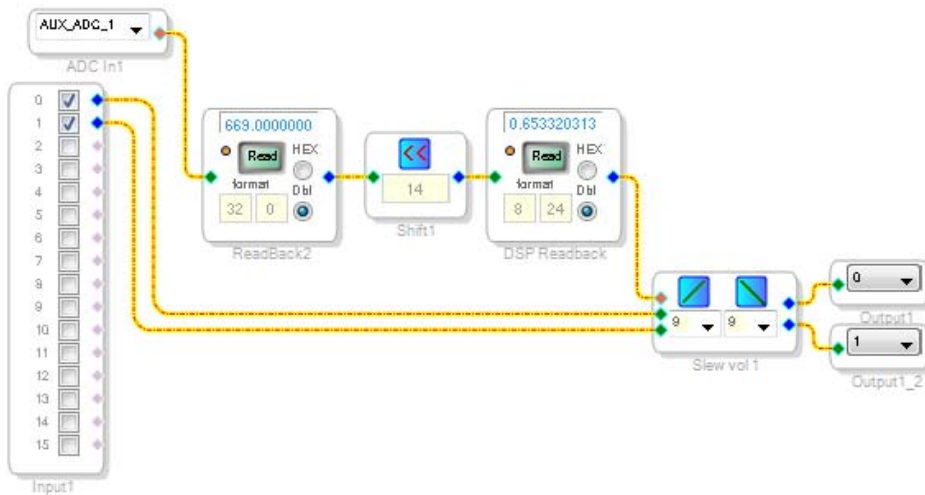

Figure 58. Completed Signal Flow with DSP Readback
5. The **Shift1** block performs a bitwise shift to the right or to the left. Click the blue button in the **Shift1** block in Figure 58 to select the direction of the shift. Ensure the block is performing a left shift for a multiplication function. The **Shift1** block appears as shown in Figure 58.
6. To set the number of bits the **ADC In1** block is shifted by to 14, click and type in the yellow text box in the **Shift1** block in Figure 58.
13. For one of the **DSP Readback** blocks, change the numeric format used to decode and display the signal value to 32.0 by inputting 32 in the left format box and then pressing the **Tab** key. **SigmaDSP** uses a numeric format of 8.24 for audio signals. See Figure 58 for more details.
16. Wire the blocks together as shown in Figure 58. The position of blocks in the diagram does not matter.
The schematic (see Figure 58) shows audio from input Channel 0 and input Channel 1 connected to the input of a **Slew vol 1** block. The volume is controlled by the **AUX_ADC_1** value of the **ADC In1** block, which is controlled by the left potentiometer, R1.